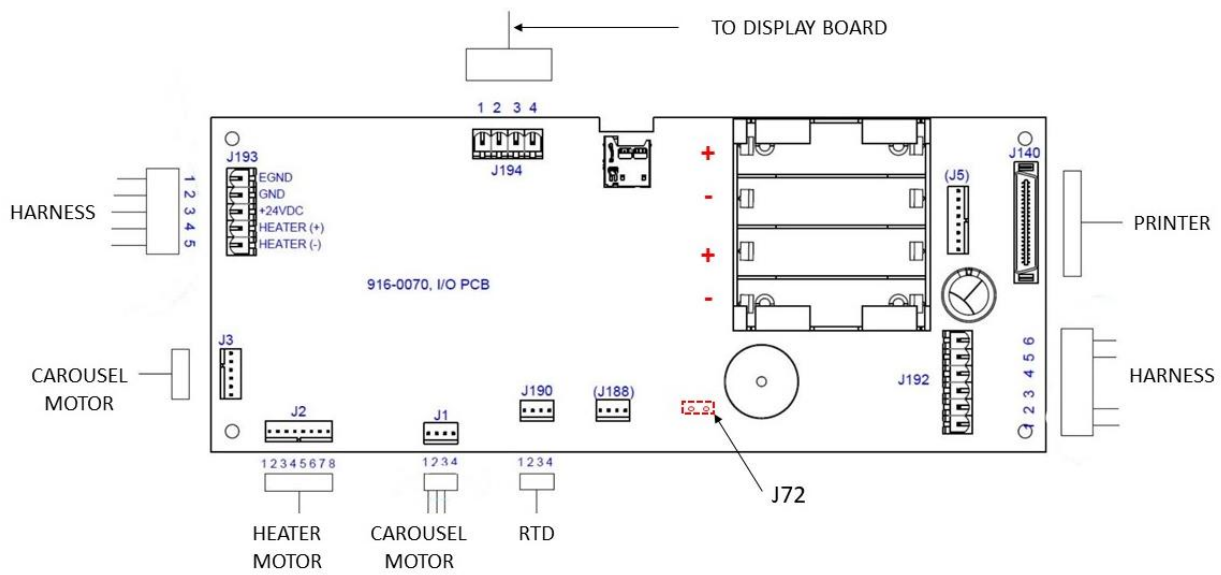

Figure 3.4. Main Board Connections
- Disconnect all cables from Board. (Figure 3.4)
- Inspect new Board. Ensure that any jumper has been removed from J72. (Figure 3.4)
- Replace batteries, noting polarity. (Figure 3.4)
- Reconnect all cables. (Figure 3.4)